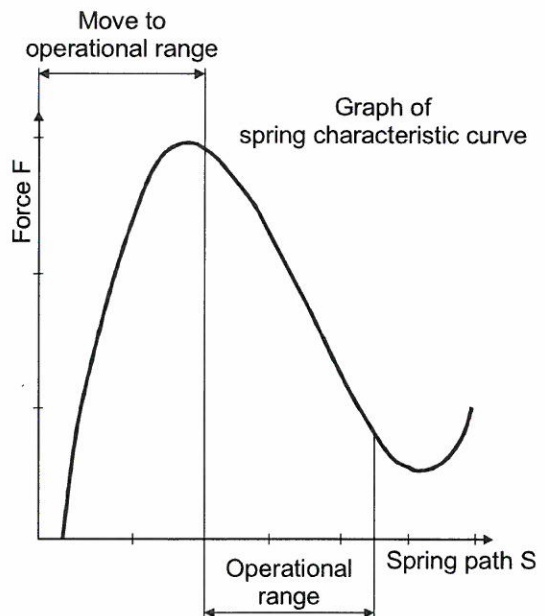
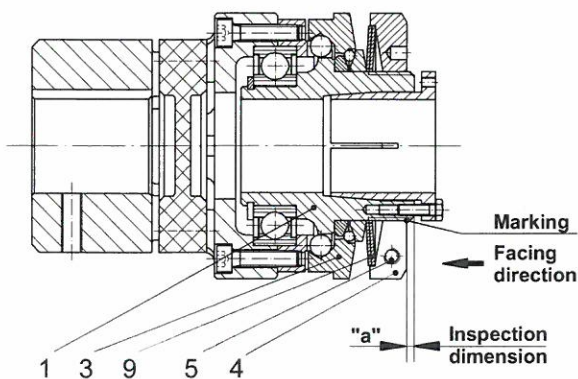

Fig. 10
Fig. 8
Adjustment takes place by turning the adjusting nut (4). The installed cup springs (9) are operated in the negative range of the characteristic curve (see Fig. 10). This means that tightening the adjusting nut (4) causes a reduction in spring force. Loosening the adjusting nut (4) causes an increase in spring force.
It is possible to check the „spring operation in the operating range” (Fig. 10) using the dimension "a" (distance from the adjusting nut, facing-side (4) to the hub edge (1) (Fig. 8)). Please see Table 2 for the respective values.
Turning the adjusting nut (4) clockwise produces a decrease in torque. Turning it anti-clockwise increases the torque. Please face the adjusting nut (4) as shown in Figs. 8 and 9.
- d) The required torque results from the marking overlap on the hub (1) and the percent value on the adjusting nut (4) (Figs. 8 and 9).
- e) Re-tighten the locking screw (5). (Observe the tightening torque acc. Table 3).
Adjusting the adjusting nut (4) or distorting the cup springs (9) out of the cup spring characteristic curve operational range (see Fig. 10) stops the clutch functioning. The inspection dimension "a" can vary due to construction tolerances or to clutch wear.